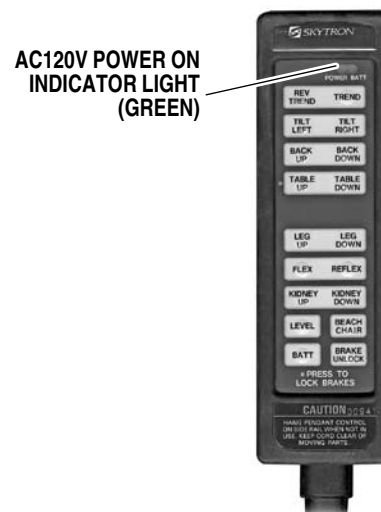

Figure 2-2. Pendant Control
The pendant control buttons and the green AC 120V, **POWER** indicator light located in the upper right corner of the pendant control will illuminate. See figure 2-2.
a. Make sure the Battery Indicator and Main Power Switch indicator lights, on the electrical panel, are OFF. See figure 2-2. If the indicator lights are ON, turn AC120V operation OFF with the main power switch.